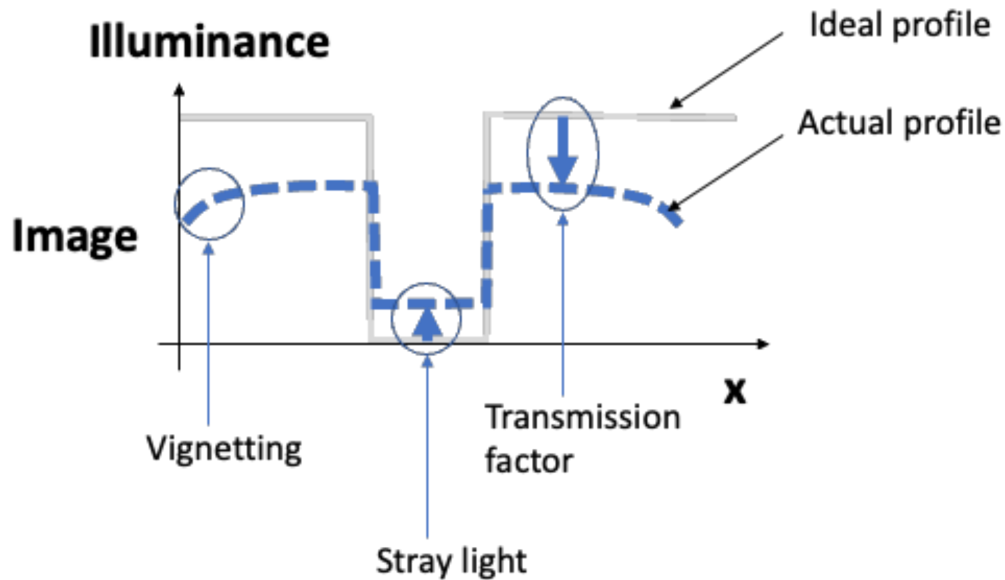

Figure 3.1: Image given by a non perfect objective of a black object on a bright background.
Figure 3.1 shows a perfectly black object (zero luminance) on a bright background (uniform luminance). In the image plane of the objective, with a given magnification, the same spatial variation of illuminance should be observed. The dashed line shows, with some exaggeration, what is obtained in reality: some stray light in the dark zone (1), a bright zone attenuated